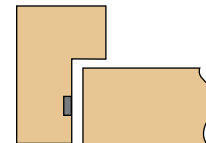

FIG. 1
STEP 1 Important: Check gaps to determine groove depths. RP76 pile should lightly engage sealing surface. **(FIG. 1)**